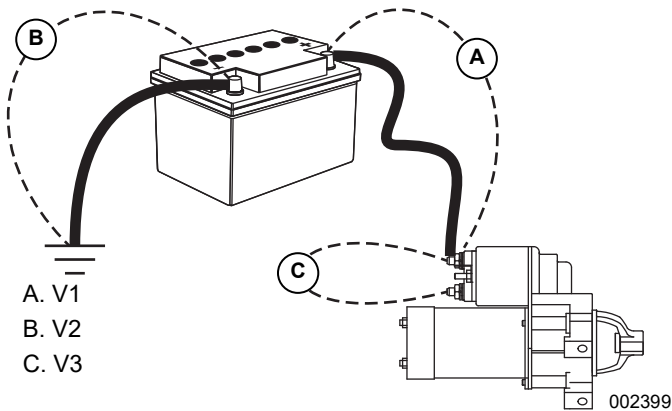
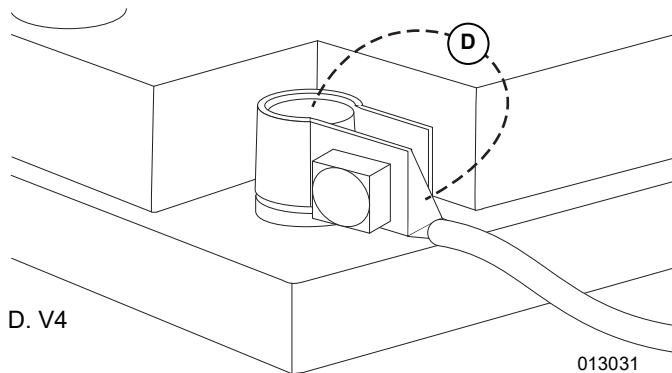

Figure 4-3.
Figure 4-4.
2. Refer to battery post and starter connections in **Figure 4-3** and **Figure 4-4** and perform a voltage drop tests as indicated.
4. Record readings from test points V1 (A), V2 (B), V3 (C), V4 (D) as depicted in **Figure 4-3** and **Figure 4-4**.